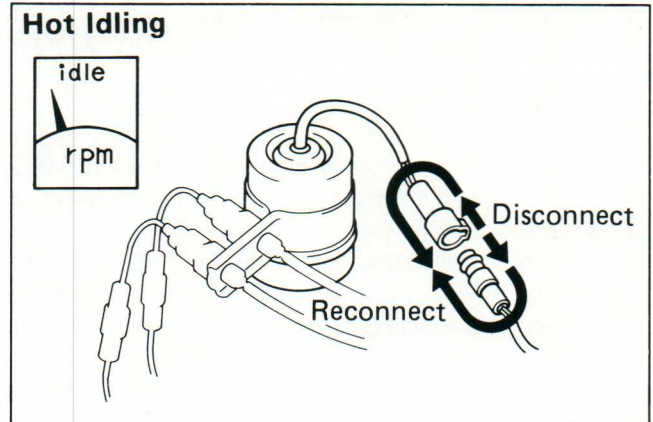

Figure 248-7
- e. With the engine idling, repeat steps b and d (Figure 248-7).